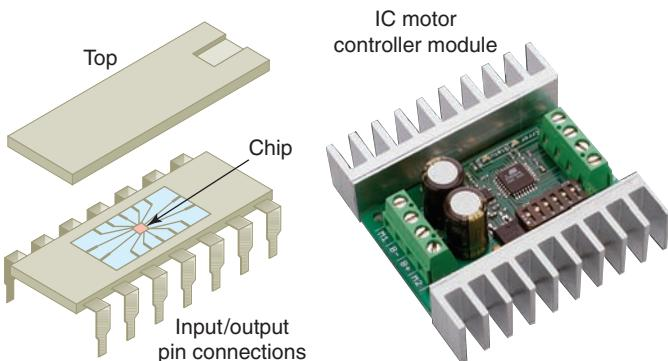

Figure 9-41 Integrated circuit (IC).
An integrated circuit (IC), sometimes called a **chip**, is a semiconductor wafer on which thousands or millions of tiny resistors, capacitors, and transistors are fabricated. IC chips provide a complete circuit function in one small semiconductor package with input and output pin connections, as illustrated in Figure 9-41. Most integrated circuits provide the same functionality as “discrete” semiconductor circuits at higher levels of reliability and at a fraction of the cost. Usually, discrete-component circuit construction is favored only when voltage and power dissipation levels are too high for integrated circuits to handle.